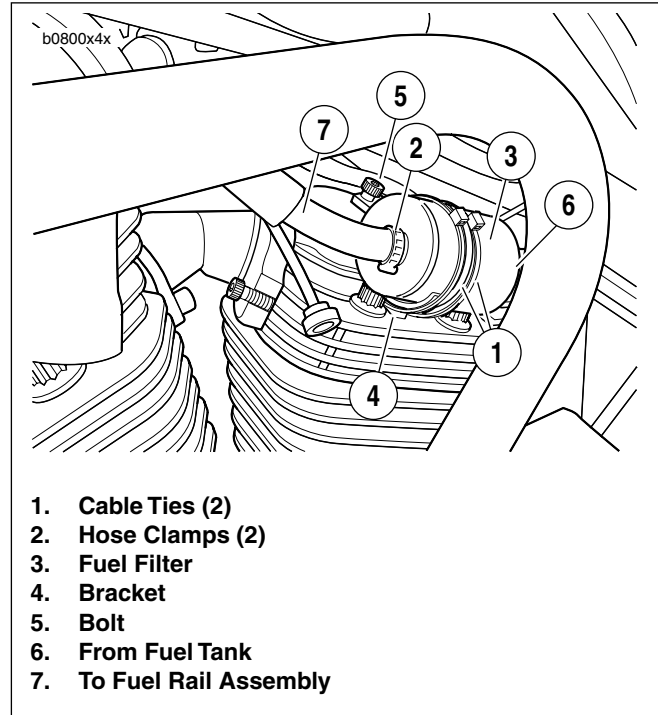

Figure 4-94. Inline Fuel Filter
See Figure 4-94. There is a replaceable inline fuel filter between the fuel pump outlet at the fuel tank and the fuel rail assembly.
2. See Figure 4-94. Cut two cable ties that secure fuel filter to bracket.
4. See Figure 4-94. Remove hose clamps from both sides to detach filter.